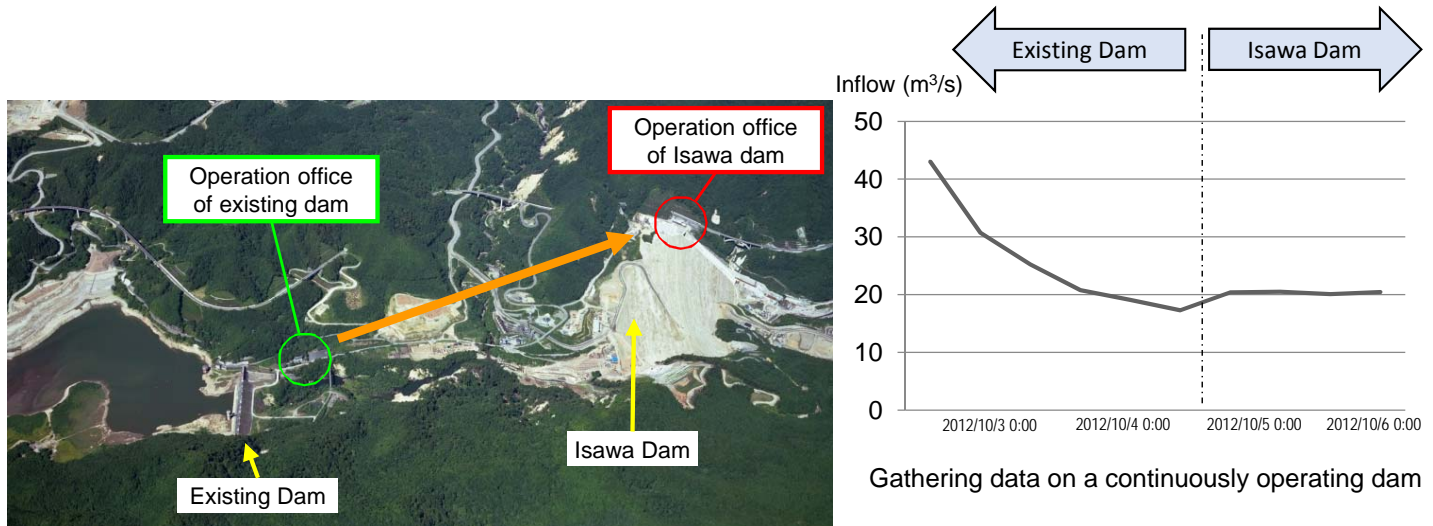

Fig.4-3 Isawa Dam
- Isawa Dam in Iwate Pref.(Fig.4-3)